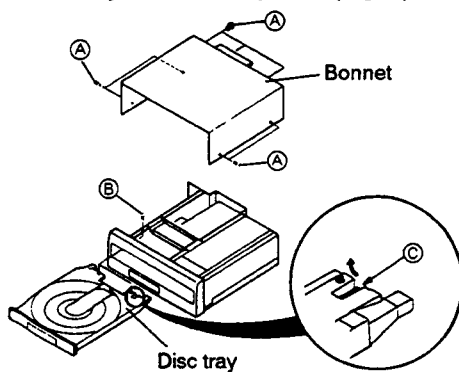

Fig. 7
1. Remove the seven screws ① that stabilize the bonnet and take off the bonnet. (Fig. 7)
2. Remove the two tray stopper screws ② and press the OPEN/CLOSE button to put the tray unit in the open position. (Fig. 7)
3. While pushing the hook ③ on the right rear of the disc tray to the left, pull out the tray unit. (Fig. 7)